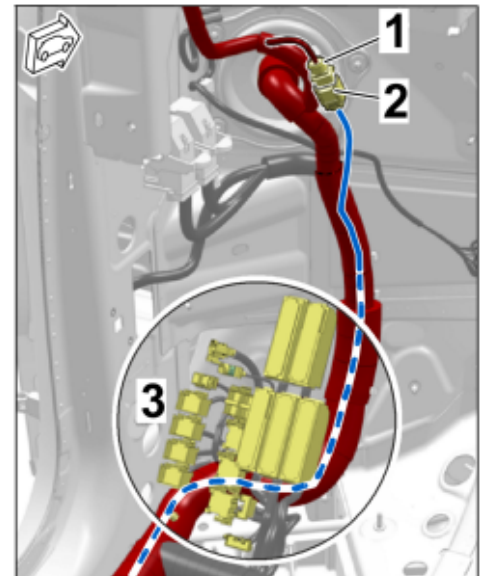

Figure 17
3.2.1 A-pillar area, left ⇒ *Figure 17*